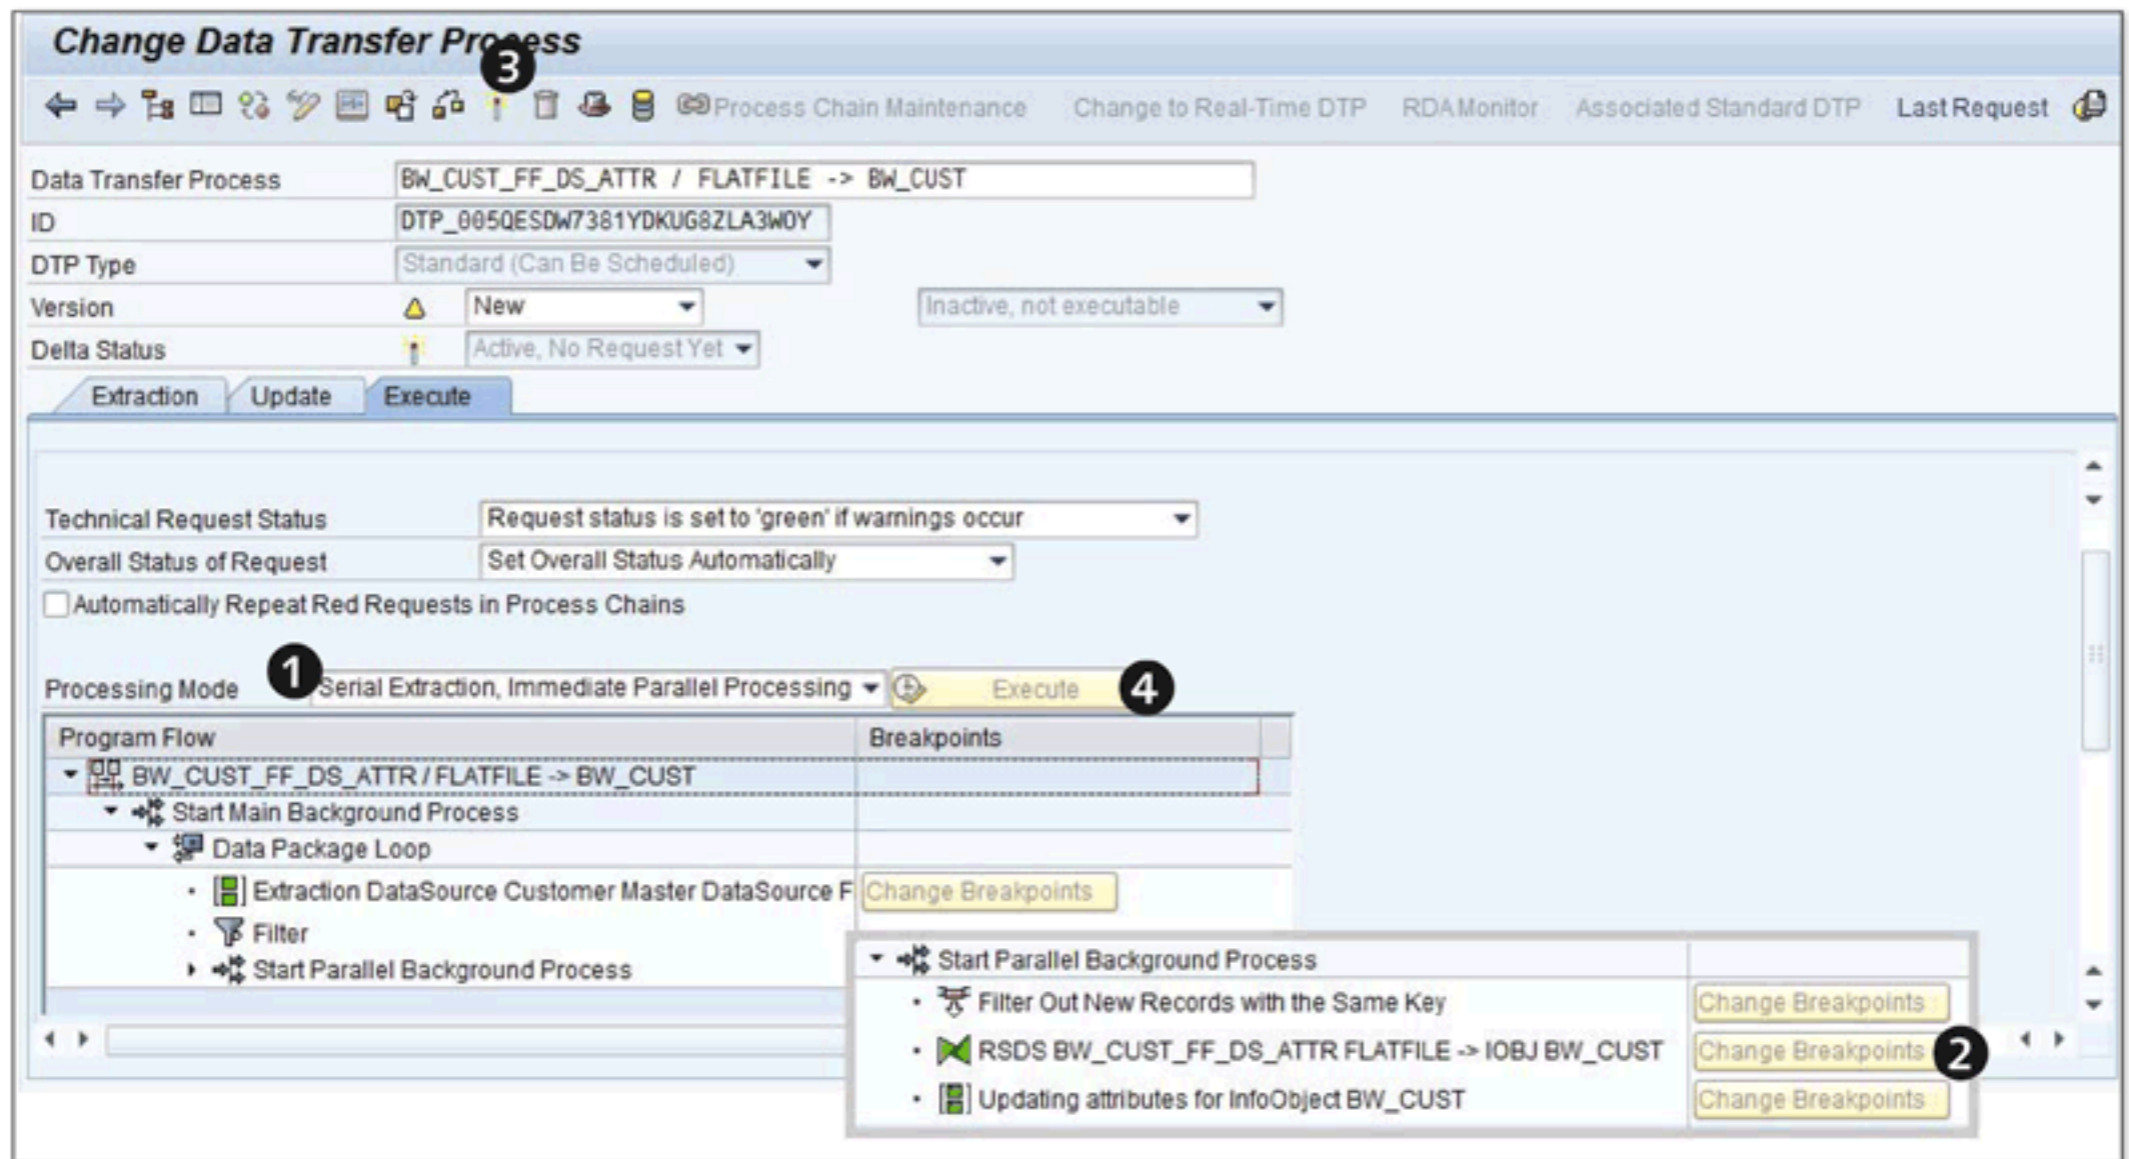

Figure 7.28 Change Data Transfer Process: Execute Tab
Now click on the `EXECUTE` tab. This tab offers various processing modes, as shown in ❶ of Figure 7.28.
This kind of processing is used by developers to debug transformations. As shown in ② of Figure 7.28, different breakpoints are available. You can select them based on your requirements and select particular records for debugging.
For our example, use the default settings shown in Figure 7.28. Activate your DTP using the ACTIVATE icon.
The EXECUTE icon (④ of Figure 7.28) is only available after activation of the DTP. At this point, however, we don't want to execute the DTP because we haven't yet extracted the data from the source system. (To do this, we must create an Info-